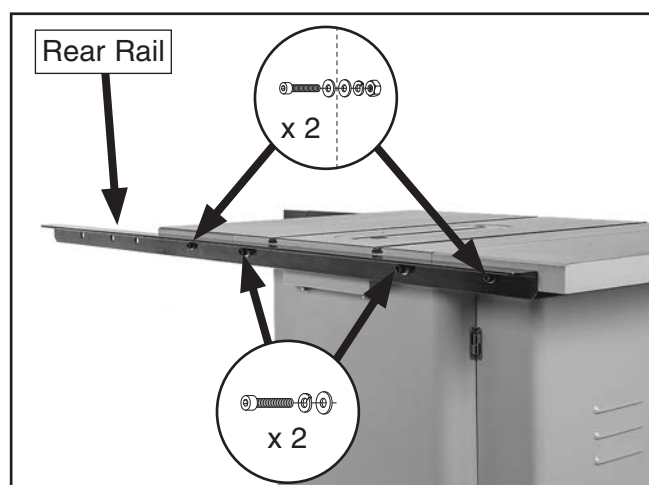

Figure 25. Rear rail installed.
12. Attach rear rail to holes on main table using (2) M10-1.5 x 25 cap screws, 10mm lock washers, and 10mm flat washers, as shown in **Figure 25**. Check to make sure rear rail is parallel to table and below miter slots before completely tightening cap screws.
13. Secure rear rail to extension wings with (2) M8-1.25 x 35 cap screws, (4) 8mm flat washers, (2) 8mm lock washers, and (2) M8-1.25 hex nuts (see **Figure 25**).